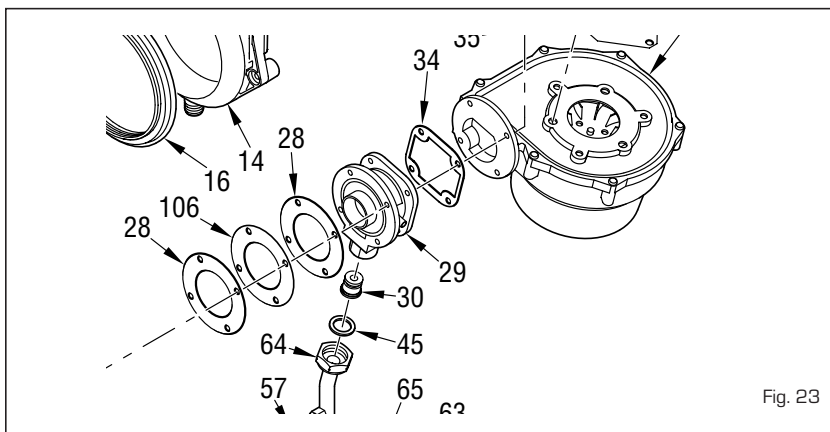

Fig. 23
4.1 GAS CONVERSION (fig. 23)
- Replace the injector (pos. 30) and the relevant gasket (pos. 45).
4.2 GAS VALVE (fig.23/a)